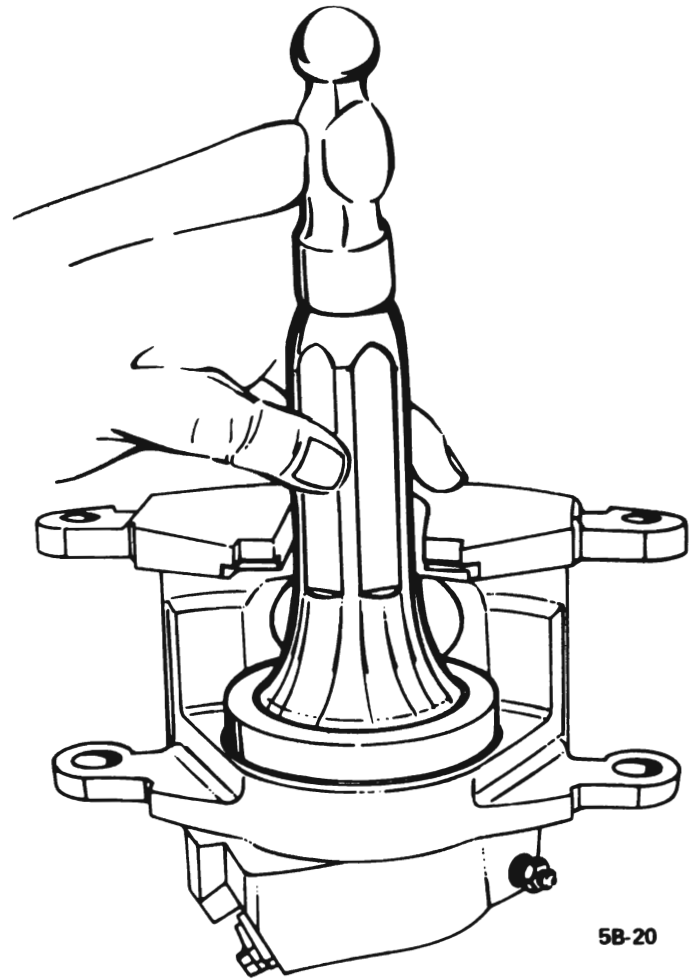

Figure 5B-20-Seating Boot
to the bottom in the bore. This will require a force of 50 to 100 pounds. Position the OD of the boot in the caliper counterbore and seat with tool No. J-22904. See Figure 5B-20.
2. Check the boot installation to make sure that the retaining ring molded into the boot is not bent and that the boot is installed fully, below the caliper face, and evenly all around. See Figure 5B-20. Otherwise dirt or moisture may enter the bore and cause damage or corrosion.